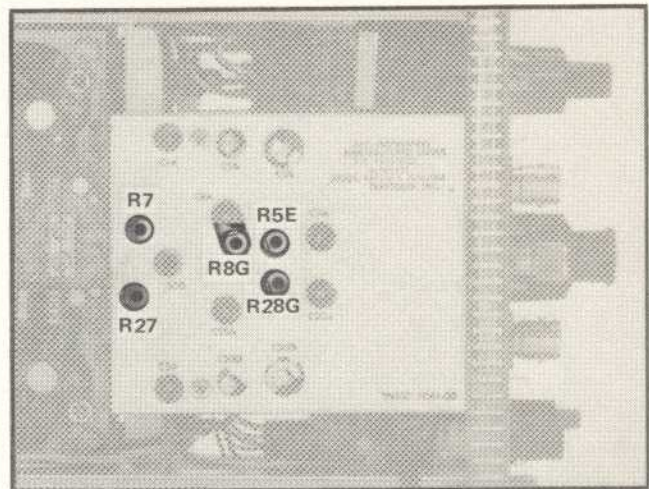

Fig. 5-10. Attenuator board adjustment locations used in the DC Input Resistance and Attenuator Ratio Adjustments procedure.
h. ADJUST—If trace shift exceeds ± 0.3 division, leave the +INPUT Mode switch in the DC position and adjust R8G (see Fig. 5-10) so that the trace is within the given tolerance. Recheck for no trace shift as the +INPUT switch is set from V_c to DC. If necessary, readjust R8G.
i. ADJUST—If a null reading is not obtained, adjust R7 (see Fig. 5-10) for a null indication on the Precision DC Voltmeter.
g. ADJUST—If the tolerance is exceeded, leave the +INPUT Mode switch in the DC position and adjust R5E (see Fig. 5-10) for minimum trace shift.
g. ADJUST—If trace shift exceeds ± 0.3 division, leave the -INPUT Mode switch at DC and adjust R28G (see Fig. 5-10) for minimum trace shift.
- j. ADJUST—If a null reading is not obtained, adjust R27 (see Fig. 5-10) for a null indication on the Precision DC Voltmeter.